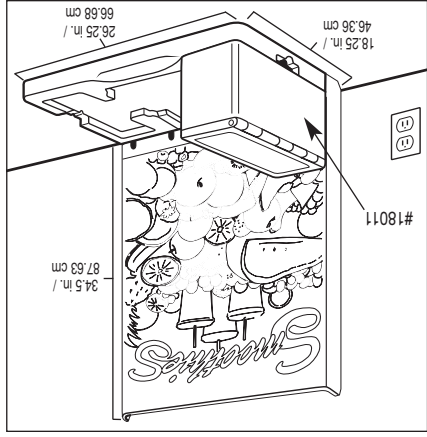

Figure 4
7. Place the Ice Bin on either side of the machine making sure it fits flat into the side cavity. Position so the lid opens away from the machine as shown in Fig. 4. Place extra containers (sold separately) or an additional Ice Bin (sold separately) in the remaining side cavity.